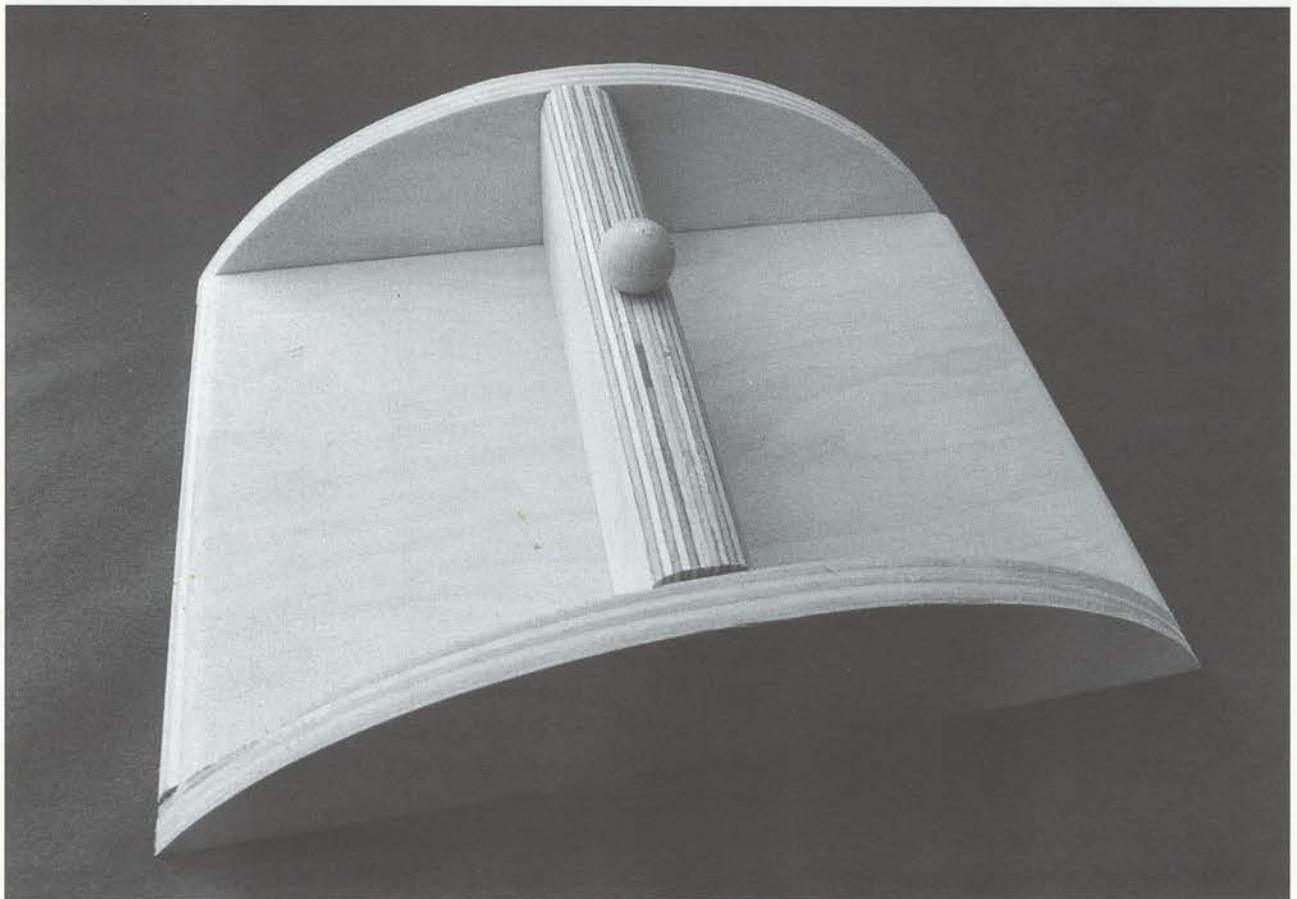

Fig 10.9 The lid assembly.
Glue and pin the two G parts together. Refer to Fig 10.9 to see the glued together parts as they appear in the finished lid. Glue and pin the G assembly to the base (E) of the lid. Then glue and pin the two side of the lid (F) in place. Set aside the lid assembly to dry.
When the glue has dried, round over the top edges of the G parts as shown in Fig 10.9 with a rasp. Remove the rasp marks with coarse sandpaper. Follow by sanding with medium, then fine sandpaper.